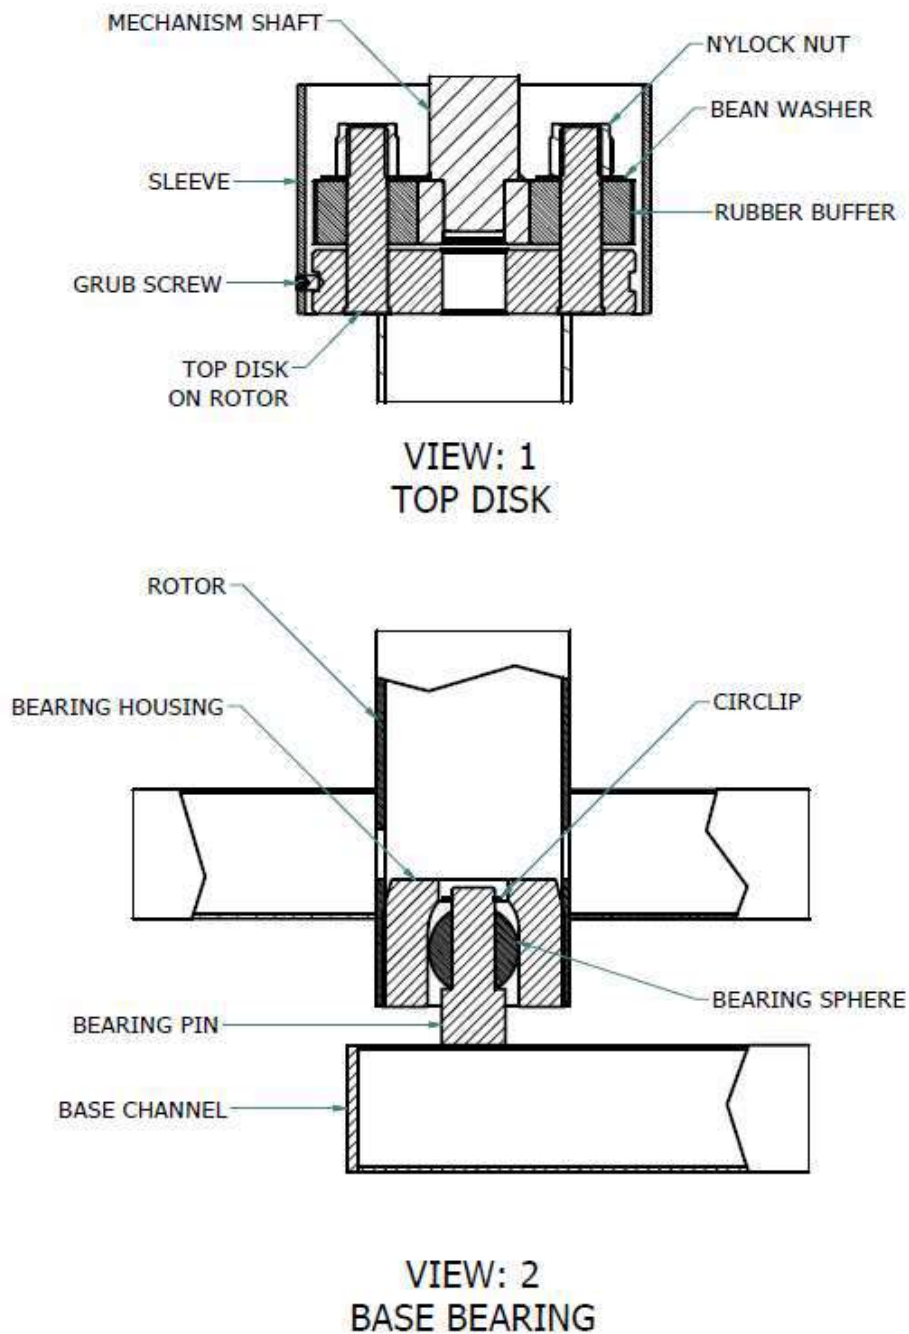

Figure 19: Views on top disk & base bearing
- 6.1. The rotor is suspended from the mechanism, and only requires a bearing sphere at the base to keep it centralised. See Figure 19: Views on Top Disk & Base Bearing, view 2. Lower the rotor onto the bearing sphere, with the rotor internal bush keeping it centric.